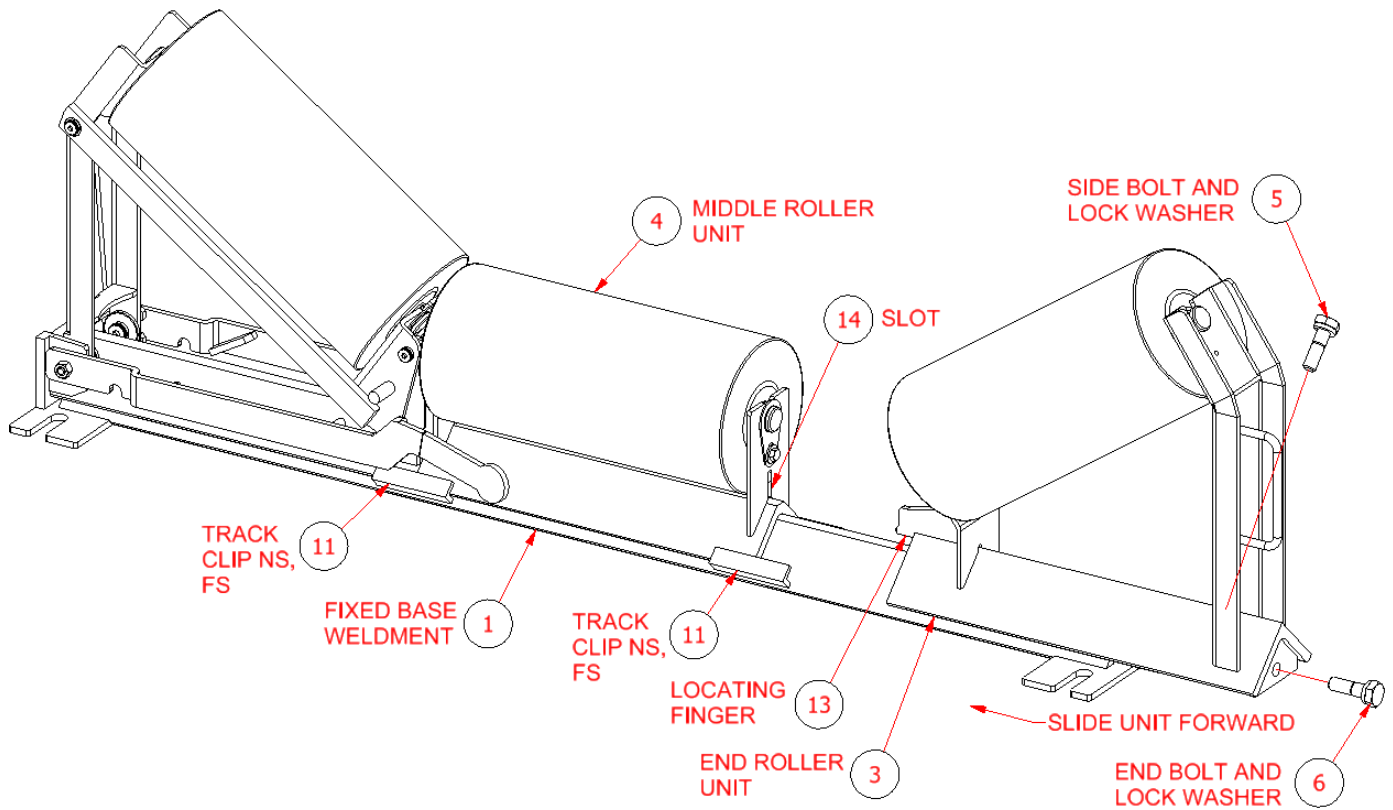
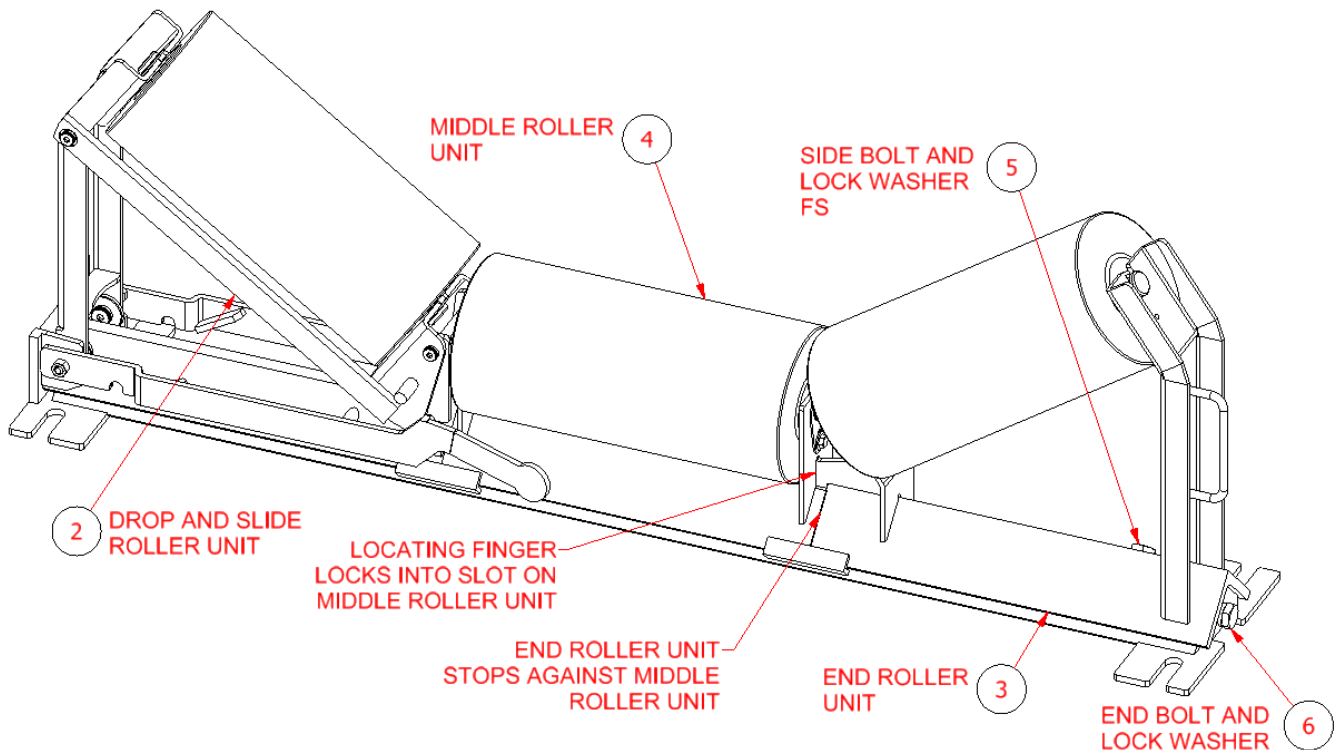

Figure 8
Figure 9
8. With the Middle Roller Unit (4) fully installed, slide the End Roller Unit (3) onto the Fixed Base Weldment (1) and slide the unit forward until it stops fully against the Middle Roller Unit (4). See Figure 8 and Figure 9 below for illustration.